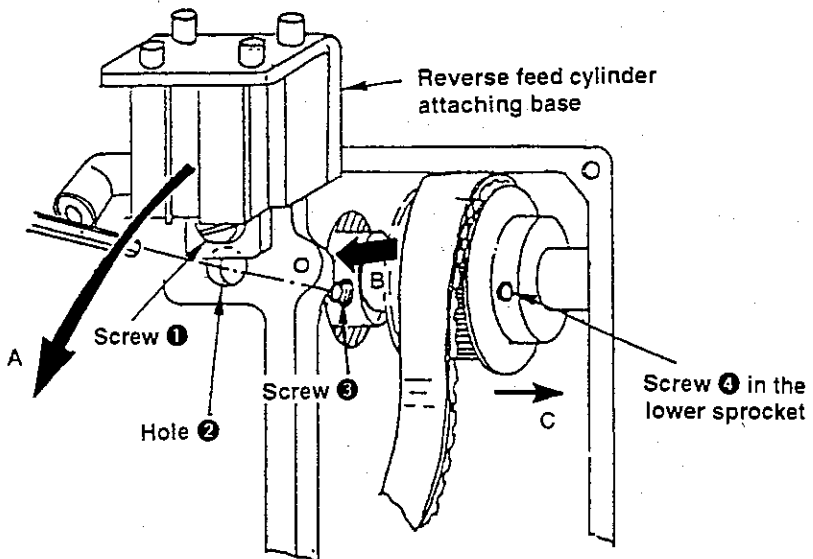

Fig. 2
<ol style="list-style-type: none"> 1. Remove the timing belt from the lower sprocket. (Fig. 1) 2. Remove the handwheel. 3. Remove the side plate. (Fig. 2) 4. Remove screw ❶ of the reverse feed cylinder attaching base, and lower the attaching base in the direction of arrow A until hole ❷ in the machine arm can be observed. (Fig. 2) 5. Put a hexagon wrench key (3 mm) from hole ❷ and loosen screw ❸ in the main shaft bearing bush. (Fig. 2) 6. Loosen screw ❹ in the sprocket. (Fig. 2) 7. Fit the top end of a screwdriver in notches ❺ and ❻ on the arm and draw out the main shaft bearing bush (asm.). (Fig. 3) 8. Shift the sprocket in the direction of arrow C as illustrated in Fig. 2 and shift the timing belt in the direction of arrow B. (Fig. 2) 9. Push the timing belt out from the hole in the machine arm and draw it in the direction of arrow D to detach it from the main shaft. (Fig. 4)